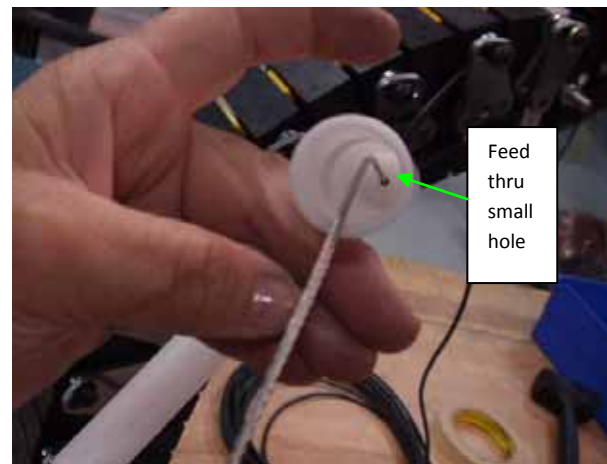

Figure 50 - Anterior Sprin Cable Insertion
15. Feed anterior (front) spring cable #ARA-369 thru small cable hole at top of longer spring tube (Figure 50) and up through all vertebra from T3 to O.C. plate.